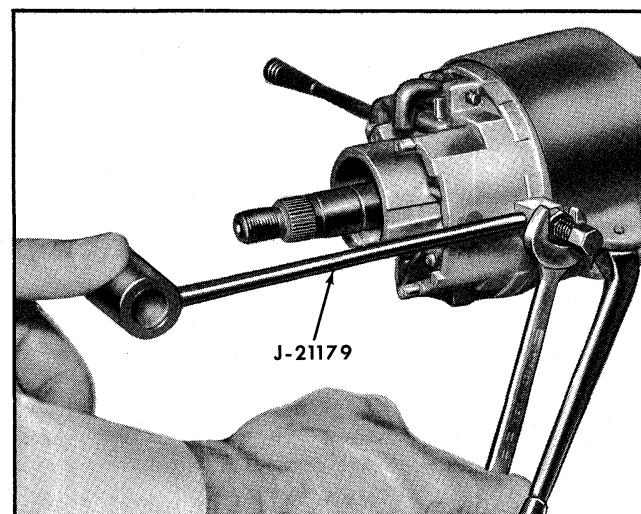

Fig. 9-16 Removing Pivot Pins
15. Remove two pivot pins with tool J-21179 (Fig. 9-16).